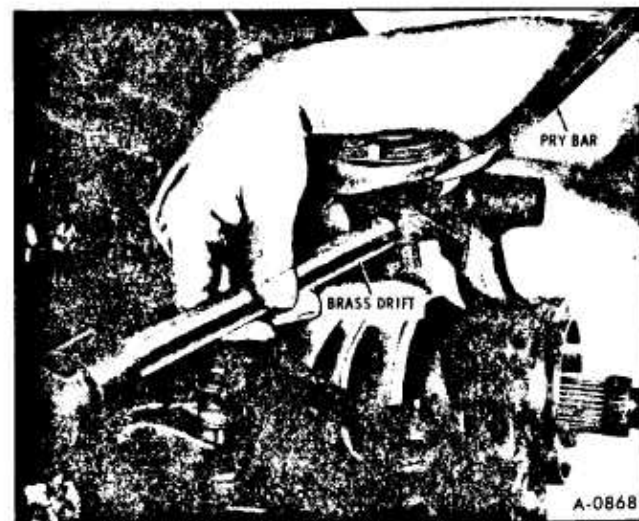

Figure 13—Removing Upper Ball Joint
7. Using hammer and brass drift, drive on knuckle until upper ball joint stud is free. (figure 13).
4. Using a brass drift and hammer, Figure 13, loosen upper ball joint stud.
5. Using hammer and a drift, Figure 13, drive on spindle until upper ball joint stud is disengaged.